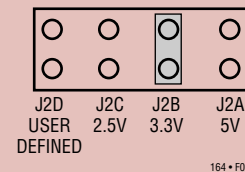

Figure 2. Output Voltage Selection (J2) (3.3V Position Shown)
- Set the desired output voltage with jumper J2 as shown in Figure 2/Table 1.